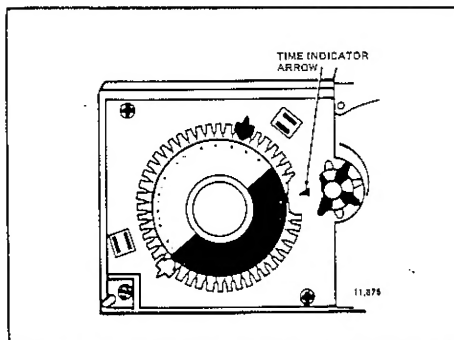

Fig. 7—Set timer on models with conventional recovery.
- ☐ When time is correctly set, the Time Indicator Arrow (Figs. 7 and 8) must point to the corresponding daytime (light) or nighttime (dark) portion of the program dial.